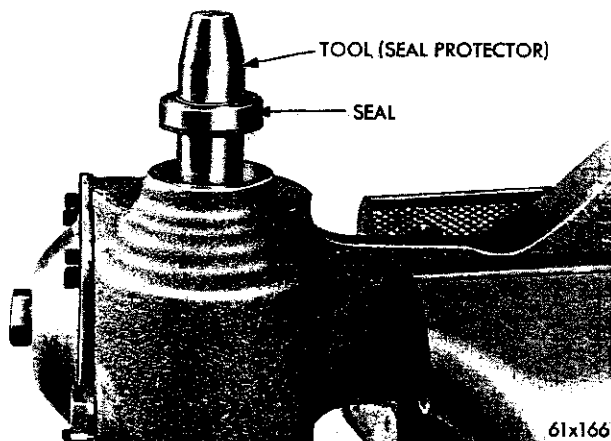

Fig. 8—Installing the Oil Seal Protector
(2) Place the oil seal protector of Tool C-3821 over the splines of the steering worm shaft and slide the oil seal over the protector with the lip of seal toward the housing (Fig. 8).